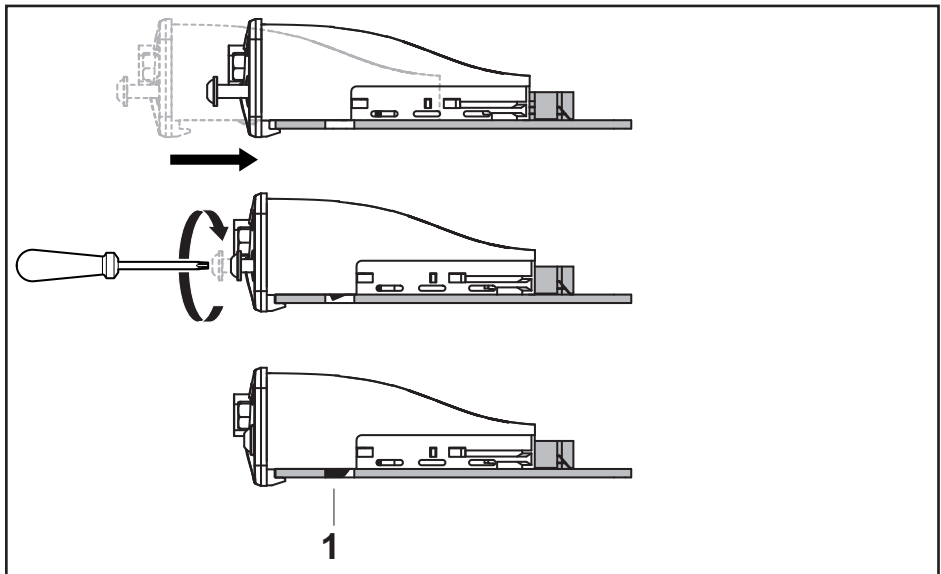

Fig. 3: Lock effect
3. Tighten the torx screws on the front until the front panel is flush. The printed board is locked by turning the screw. This lock is only fully functional once the interface has been properly tightened (see Fig. 3).